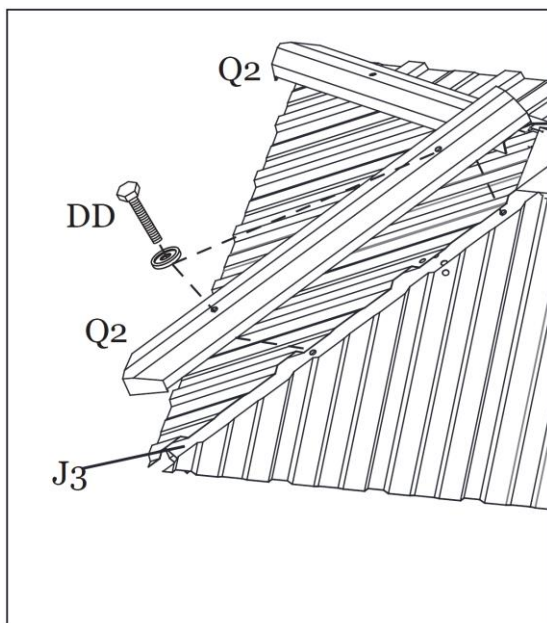

Figure 15-2
Step 15B: Attach the Roof Vent Corner Trim (Q2) to the Roof Vent Corner Support Frame (J3) using Bolts/Washers (DD). Repeat for all corners. **Tighten all Bolts.** See Figure 15-2.